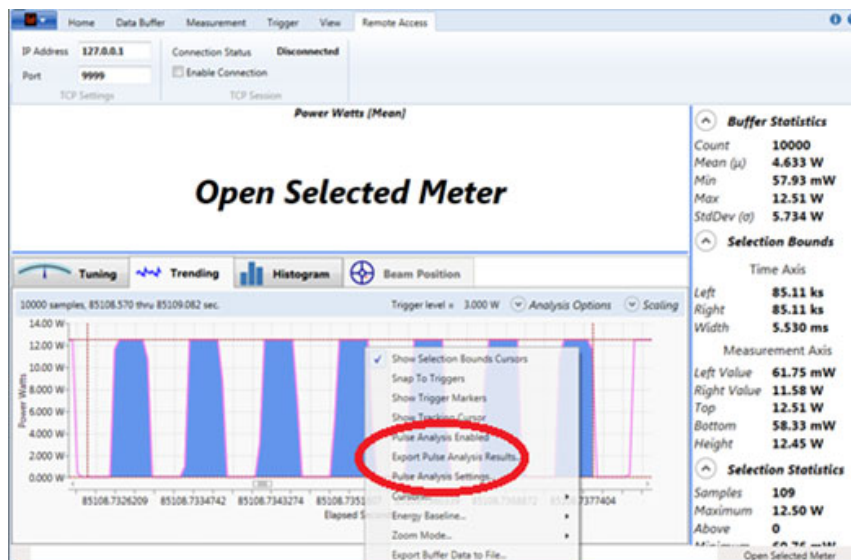

Figure 6-26. Pulse Analysis Context Menu Options
- The Pulse Analysis options in the window pop-up menu (shown in Figure 6-26):